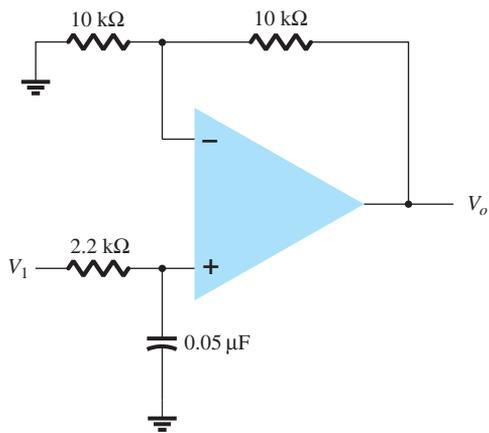

FIG. 11.57
15. Calculate the cutoff frequency of a first-order low-pass filter in the circuit of Fig. 11.57.